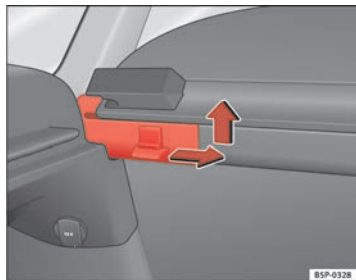

Fig. 125 Removing the rear shelf
- Press the side pin in the direction of the arrow, lift the cover and remove it → fig. 125.